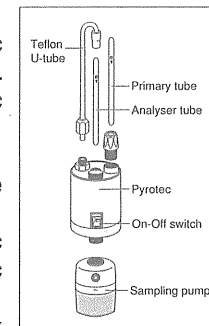

fig. 1
5. Insert the primary tube and the analyser tube into Gastec Pyrotec Pyrolyzer with arrow (G) on the tube pointing toward Gastec Pyrotec Pyrolyzer (fig. 1).